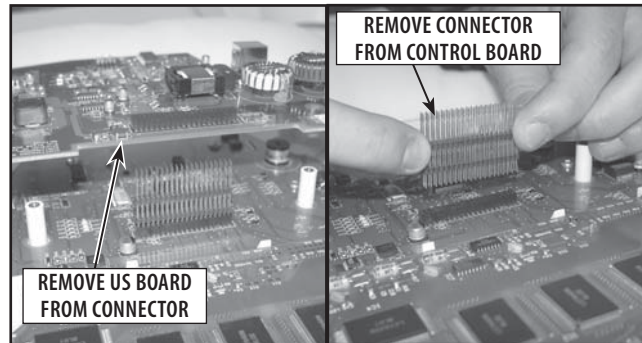

FIGURE 6.13
3. Carefully remove Ultrasound Board from the Control Board/ Ultrasound Board Header. **Refer to Figure 6.13.**
4. Remove Control Board/ Ultrasound Board Header. Be careful not to bend or damage any of the pins. **Refer to Figure 6.13.**